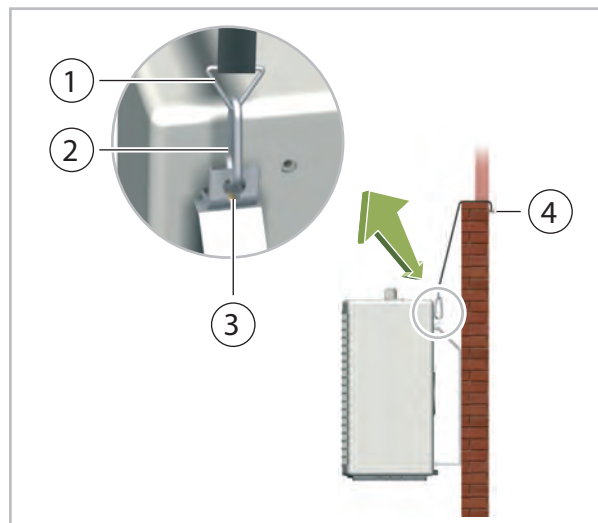

Fig. 11: Assembly with fastening straps
- Hook the other end of the fastening strap into the eyelet bolt which is to be attached to the on-site external wall or parapet wall (Fig. 11). Ensure sufficient stability.